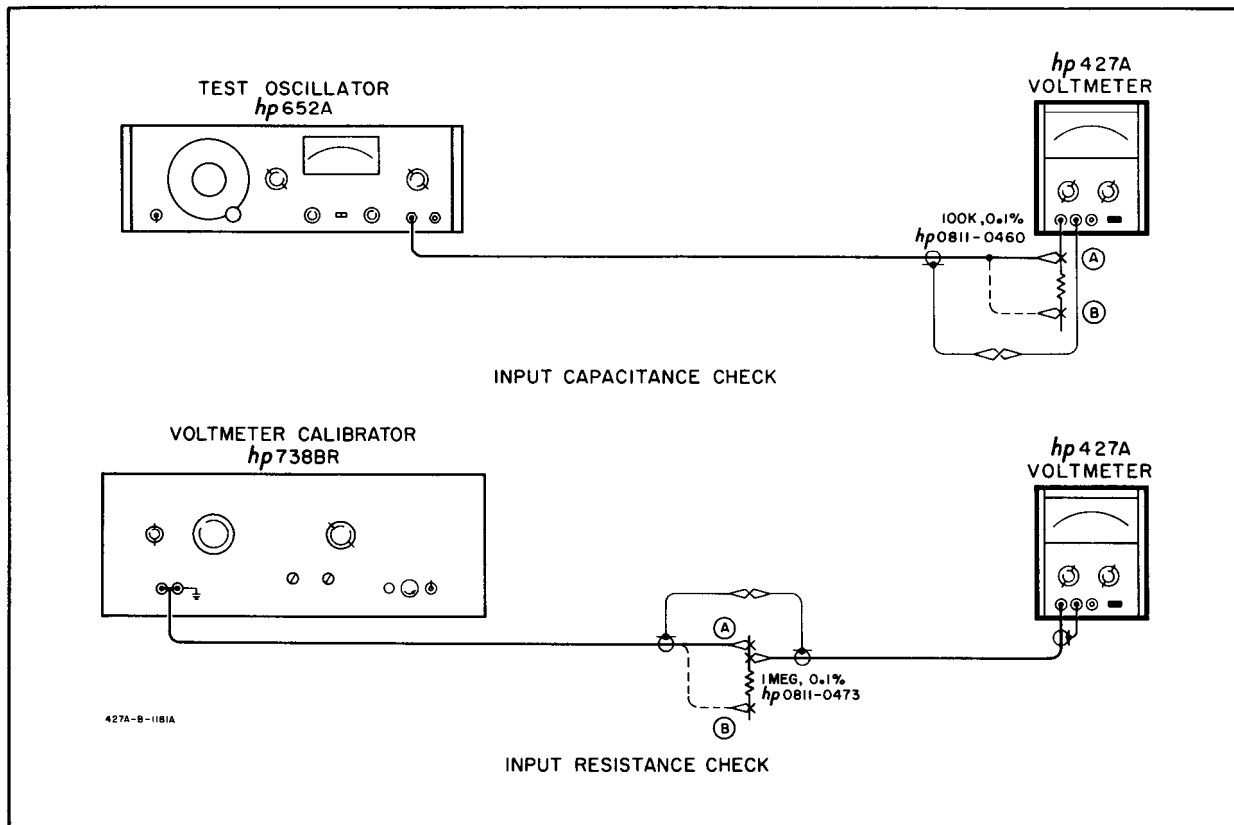

Figure 5-5. Input Impedance Check
5-22. Figure 5-5 shows the setup for the input resistance check. A  $1\text{ M}\Omega$  resistor is connected in series with the input, and the voltage drop across the input resistance will be:
- a. Connect the Model 427A and the voltmeter calibrator to position A illustrated in Figure 5-5. Set the Model 427A FUNCTION to +DCV and RANGE to 1 V.
- c. Connect the voltmeter calibrator to position B shown in Figure 5-5.
- Connect oscillator and Model 427A to position A of the input capacitance check (Figure 5-5), and set the Model 427A FUNCTION to ACV and RANGE to 1 V.